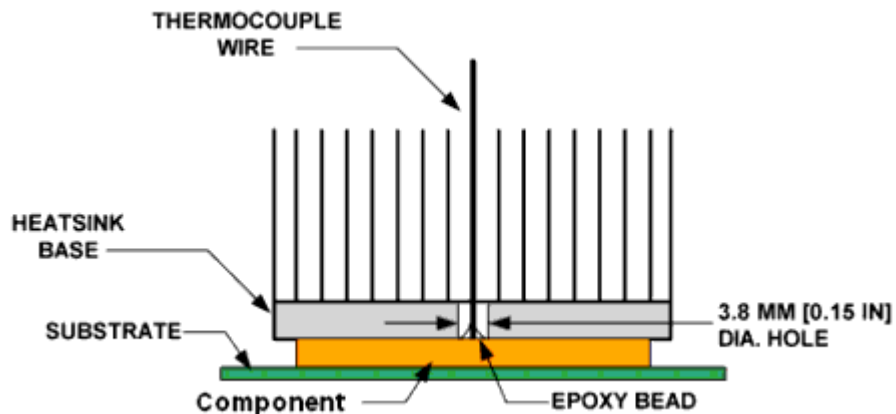

Figure 7.7. Technique for Measuring  $T_{case}$  with 90° Angle Attachment
- Attach the thermocouple at a 90° angle if there is no interference with the thermocouple attach location or leads (see Figure 7.7).